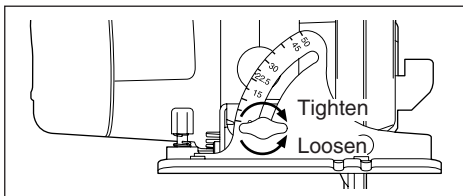

Fig. 6
- To adjust the bevel of cut setting, loose the bevel adjusting knob. Turn the bevel adjusting knob counterclockwise.(See Fig.6) Adjust the bevel of cut.